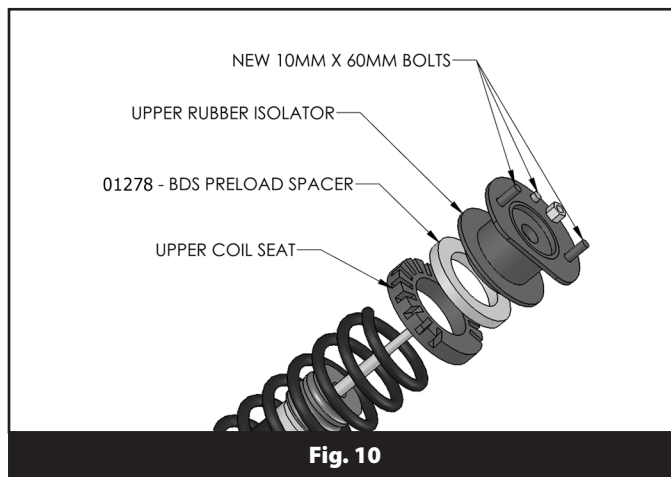

Fig. 8
13. Remove the rubber isolator from the strut cap (Fig 8).